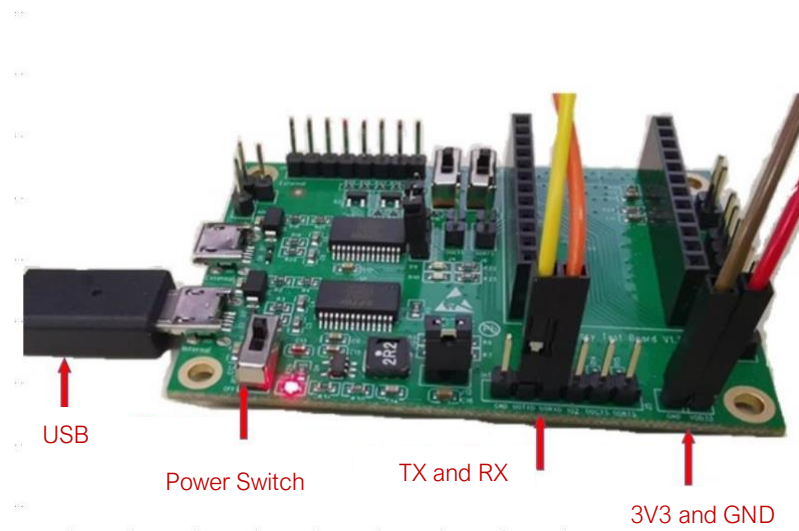

Figure 1-1. Connection with Serial Port Board
1. Switch on the serial port board, and the indicator LED will light up as shown in Figure 1-1.